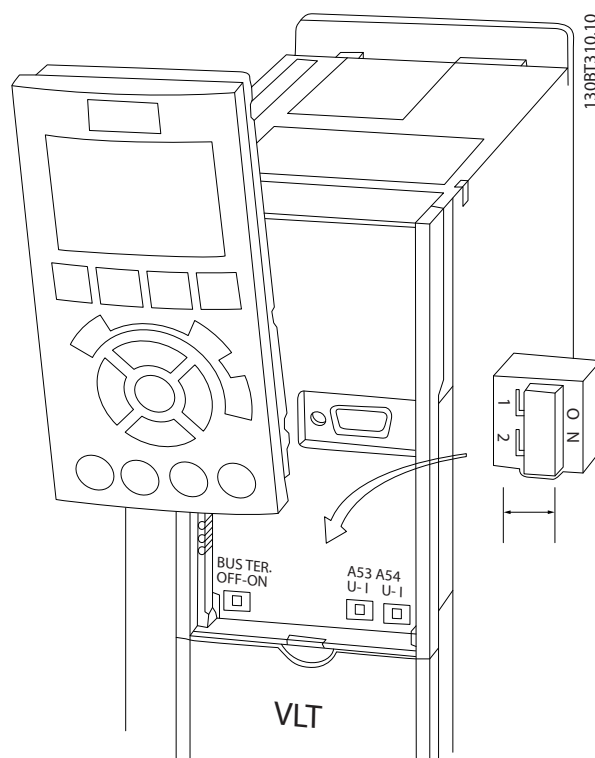

Figure 2.31 Location of Terminals 53 and 54 Switches and Bus Termination Switch
- The switches are accessible when the LCP has been removed (see *Figure 2.31*).